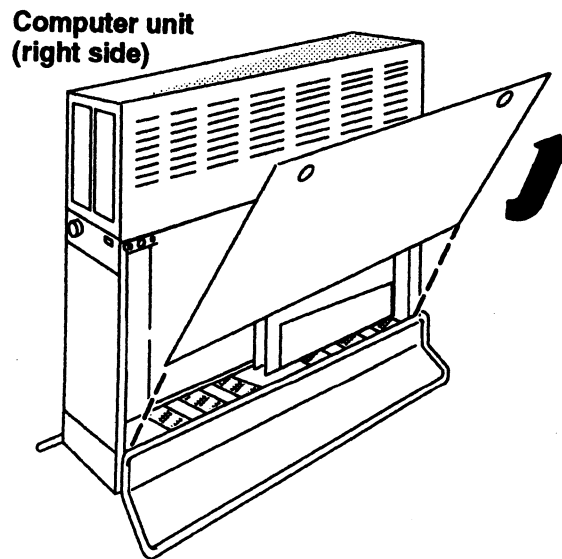

Figure 5-6 Removing the Side Covers
4. While supporting the side cover, lift it up and away from the computer unit as shown in Figure 5-6.